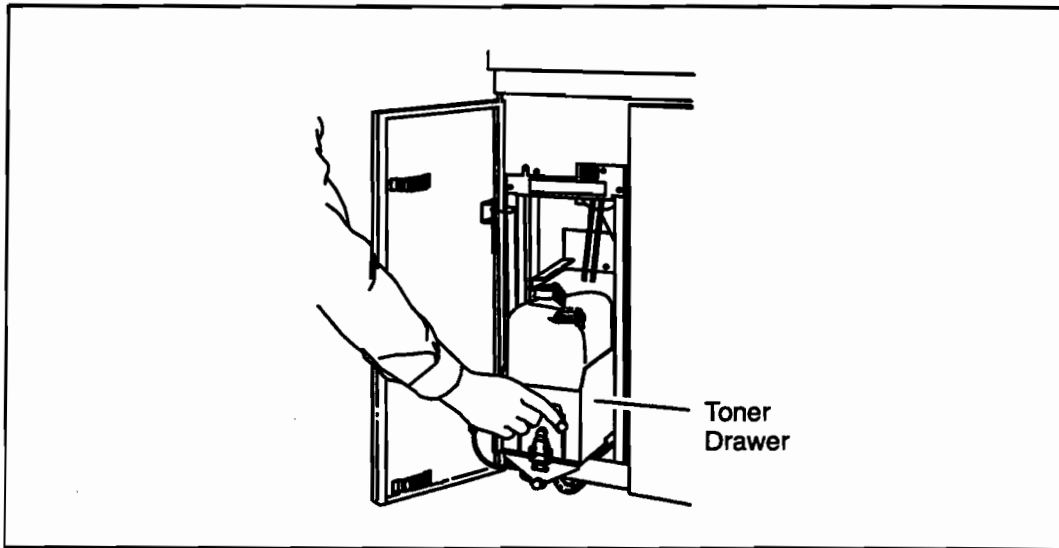

Figure 3-35. Toner Drawer
6. Pull the toner drawer out. See Figure 3-35.